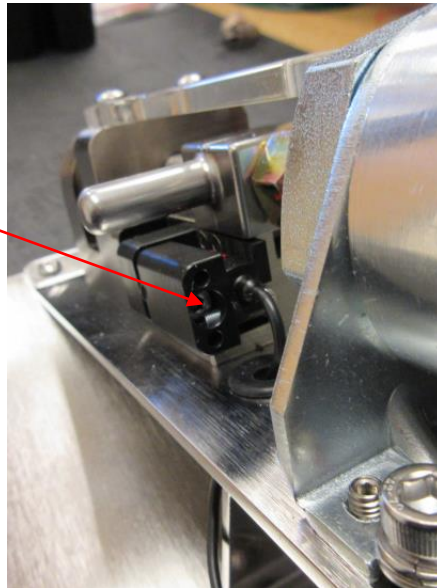

Figure 7: Sensor Adjustment Screw
- If adjustment of sensor position is desired, use the adjustment screw shown below in figure 7. Turning the sensor adjustment screw clockwise will move the sensor line closer to the jaws, while counterclockwise moves the sensor line away from the jaws.